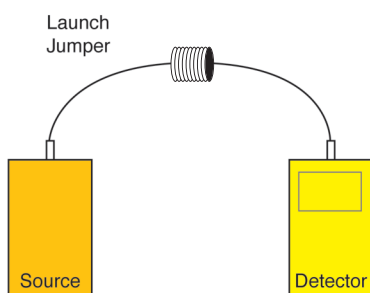

Figure 1
- A test launch jumper is connected to a source and a detector as shown in Figure 1. The detector is “zeroed” to eliminate the effects of loss through both the launch jumper and the connection between the launch jumper and source.
#### Single Ended Method See Figure 1 on page 4.